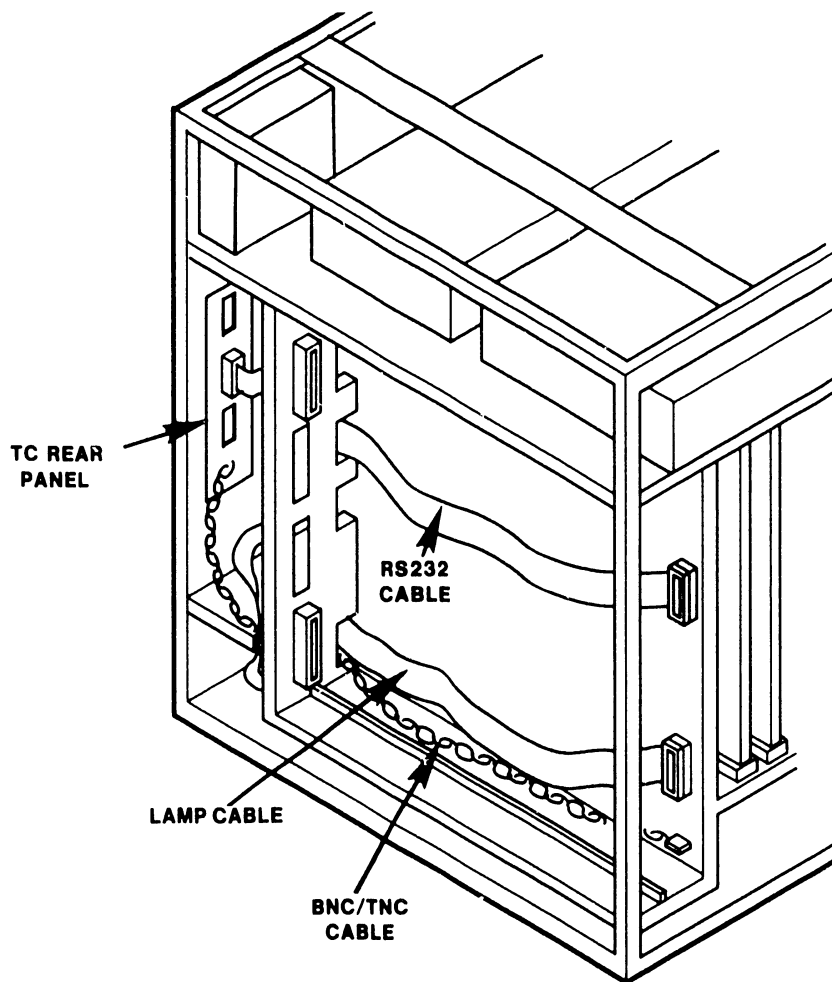

Figure 4-28 TC Lamp Board Cable Routing (bottom side frame slot)
5. Fit the cable through the bottom most slot in the side frame as shown in Figure 4-28.